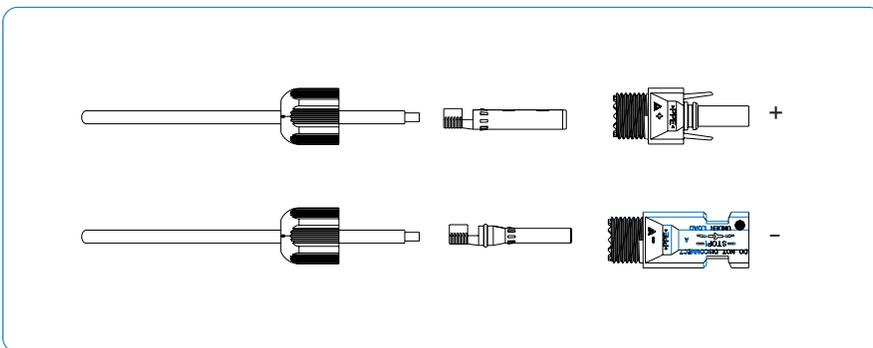

Figure 5-6
3) Disassemble the connector in the accessory bag, as shown in Figure 5-6: